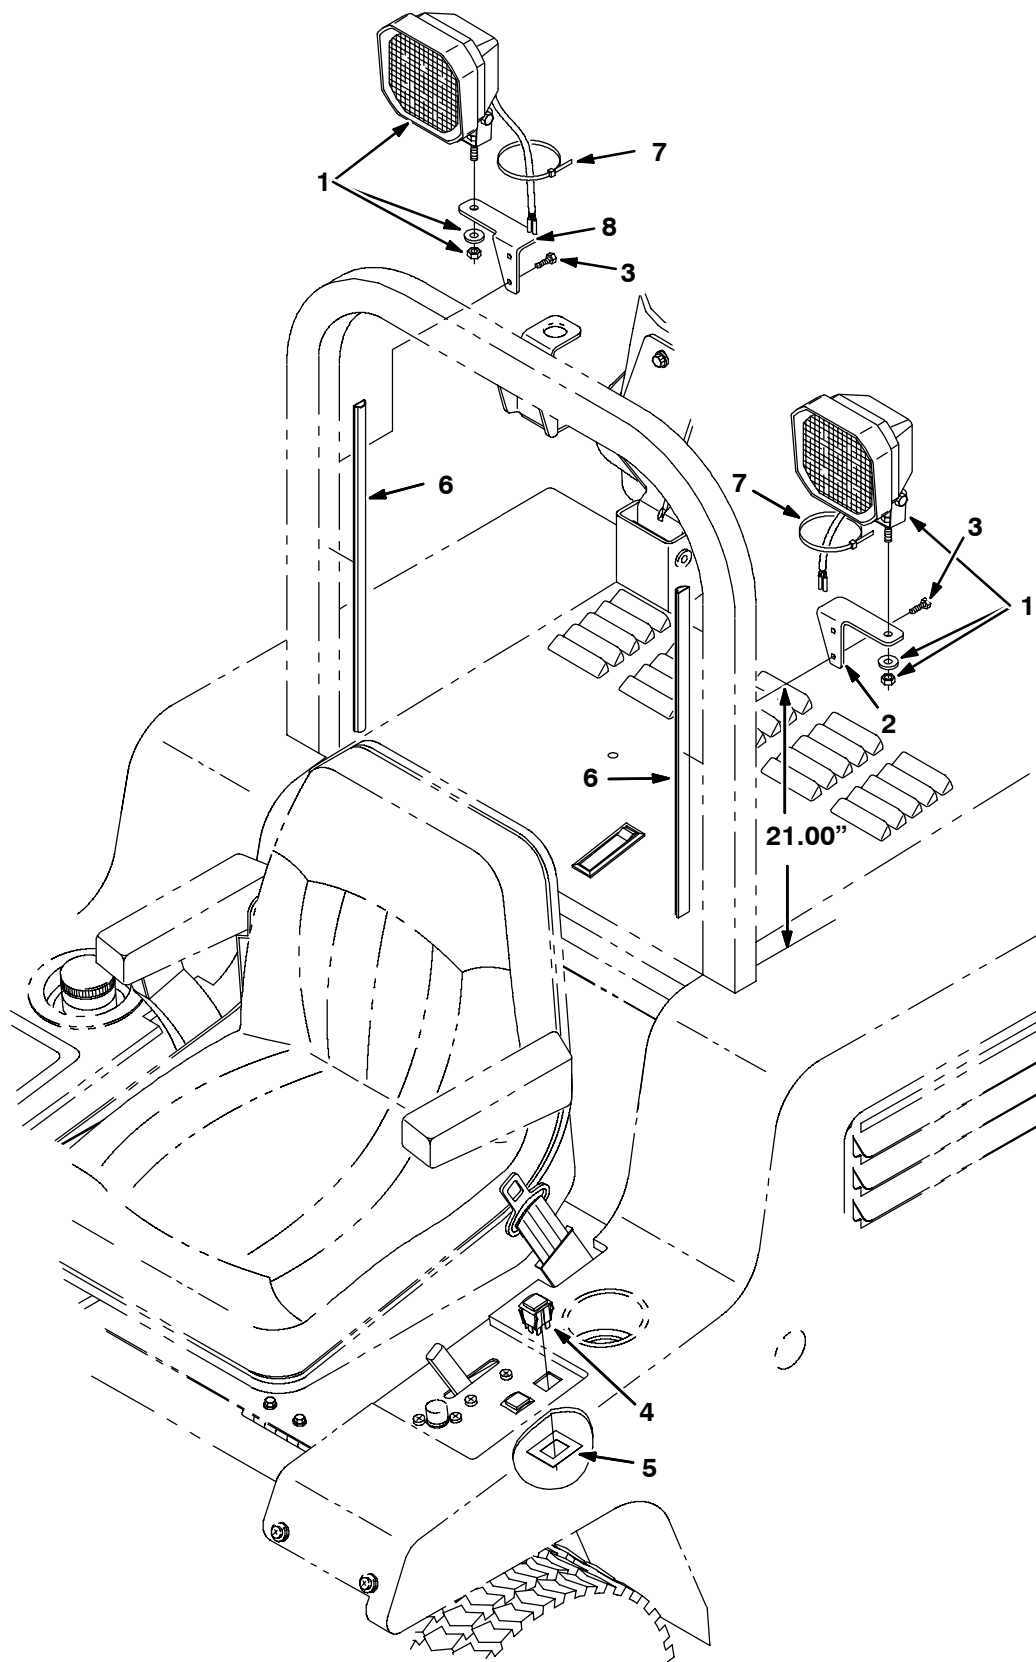

FIG. 1 - WORK LIGHT KIT INSTALLATION
1. Use angle bracket (2) as a template to mark two mounting hole positions on each side of machine roll bar. Refer to FIG. 1.
NOTE: The bottom hole should be marked 21" from the base of the roll bar. Refer to FIG. 1.
2. Use a 7/32" drill bit to drill mounting holes in newly marked positions into the roll bar. Refer to FIG. 1.
3. Mount left light bracket (2) and right light bracket (8) to roll bar with hex screws (3). Refer to FIG. 1.
4. Use hardware included with the halogen lamps (1) to install the lamps onto the light brackets (2) and (8). Refer to FIG. 1.
5. Install a vinyl duct (6) to the inside of each roll bar. Refer to FIG. 1.
6. Route the work light wires from main harness up through duct work (6) and to the halogen lamp (1) connections. Refer to FIG. 1 through 3.
7. Connect wire harness to the halogen lamps (1). Refer to FIG. 1 through 3.
8. Bundle and tie excess wire with cable ties (7). Refer to FIG. 1.
9. Install the rocker switch (4) and retainer plate (5) into the rear switch location in the operation panel. Refer to FIG. 1.
10. Wire the rocker switch (4) into main wire harness. Refer to FIG. 1 through 3.